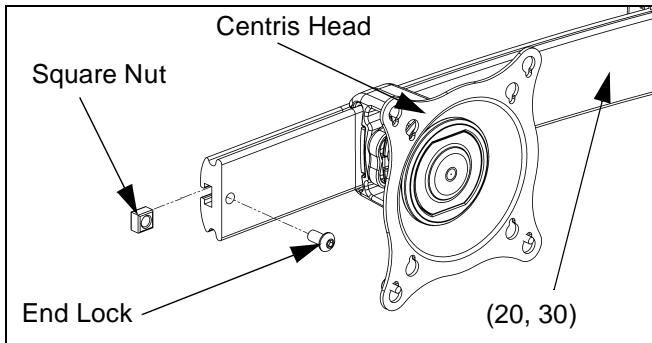

Figure 8: Remove End Lock(s)
1. Uninstall end lock using the 5/32" hex key (120). (see Figure 8)